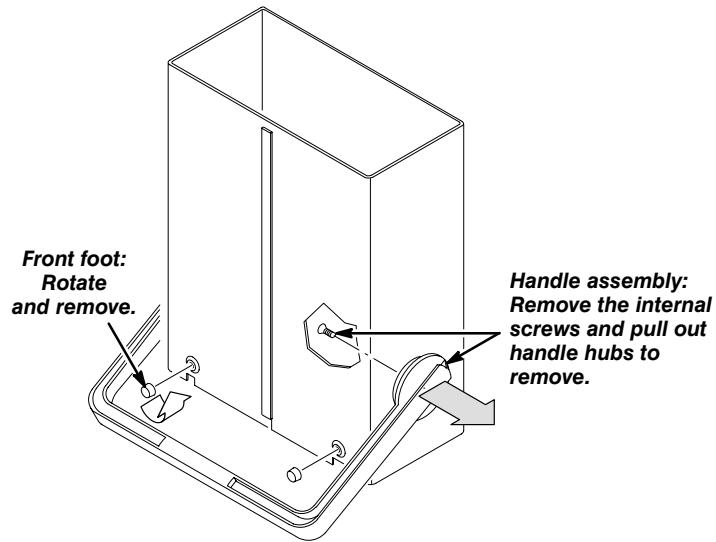

Figure 6: Removing the Handle and Front Feet
- a. Using a #T20 Torx-drive screwdriver, remove the two screws retaining the cabinet handle, and remove the handle (see Figure 6).